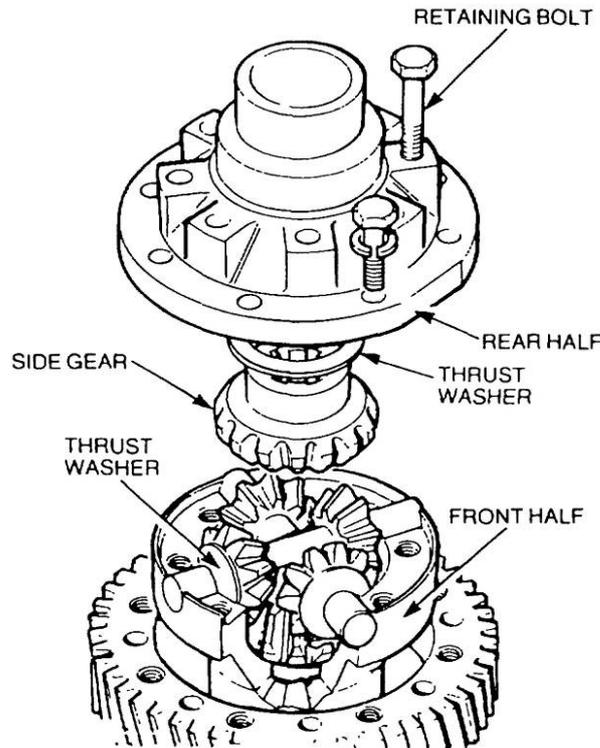

Figure 77 Reassembly of the Differential
- a. Support the differential front half in the vertical position (Figure 77). Install a side gear and thrust washer into the front half of the differential, fit the bevel pinions, thrust washers and pinion shafts onto the front half and side gear. Insert the remaining side gear and thrust washer into the rear half and fit the two halves together.